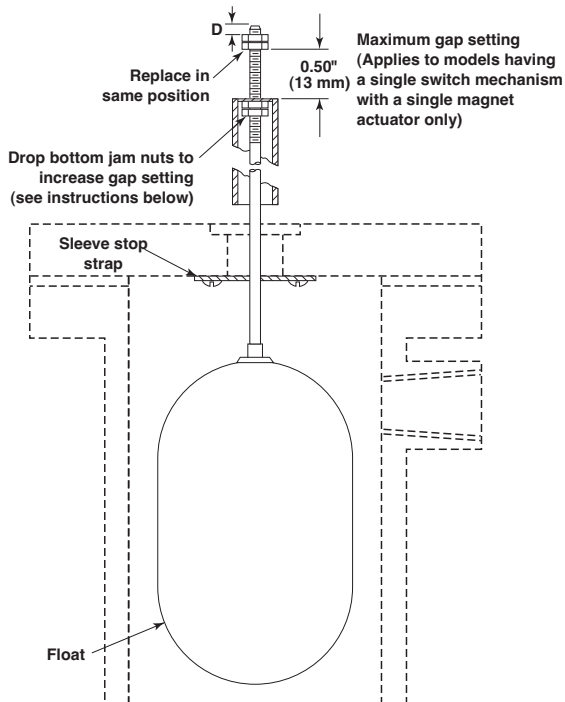

Figure 6
The differential on low level controls may be adjusted by repositioning the lower jam nuts on the float stem. The standard factory setting is for a minimum amount of play (gap) between the top jam nuts and the attraction sleeve. Refer to **Figure 6**.
8. Measure the distance “D” from the top edge of the upper jam nuts to the top of the float stem. Refer to **Figure 6**. Record this measurement.
10. Loosen and adjust lower jam nuts to the desired position. Tighten lower jam nuts securely. Refer to **Figure 6**.
12. Replace upper jam nuts and guide washer on the stem in the position previously noted. Tighten upper jam nuts securely. Refer to **Figure 6**.